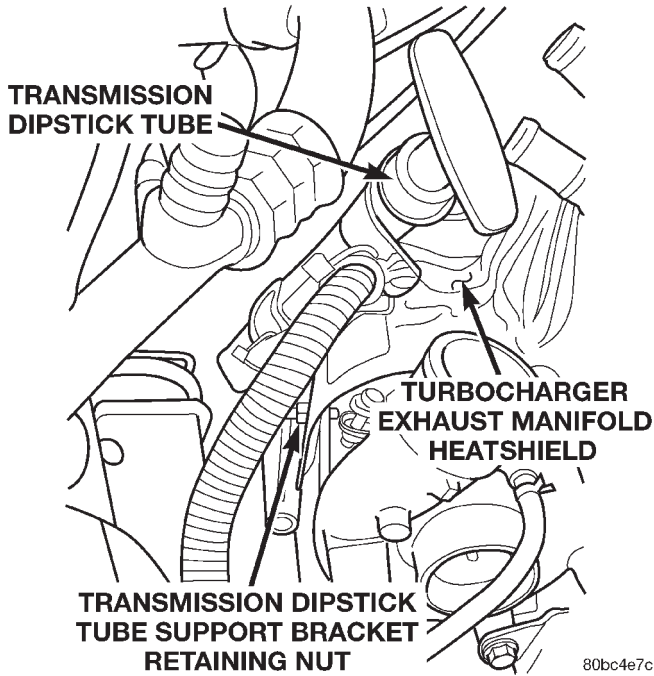

Fig. 14 Transmission Dipstick Tube Support Bracket
(58) Remove the transmission dipstick tube support bracket retaining nut from the turbocharger heatshield (Fig. 14).
(59) Raise the vehicle on the hoist.
(60) Disconnect the starter motor electrical.